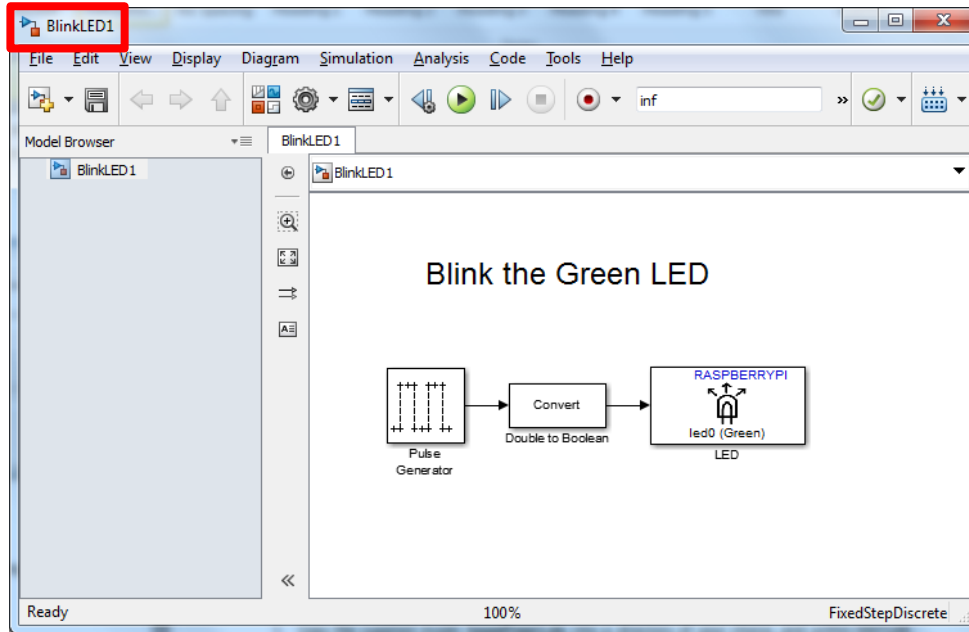

Figure 9: Simulink model BlinkLED1.slx
- Run an existing model, **BlinkLED1.slx** (Figure 9).
Task/Challenge: Re-construct the **BlinkLED1.slx** (Figure 9) model from scratch to get familiar with the design process.